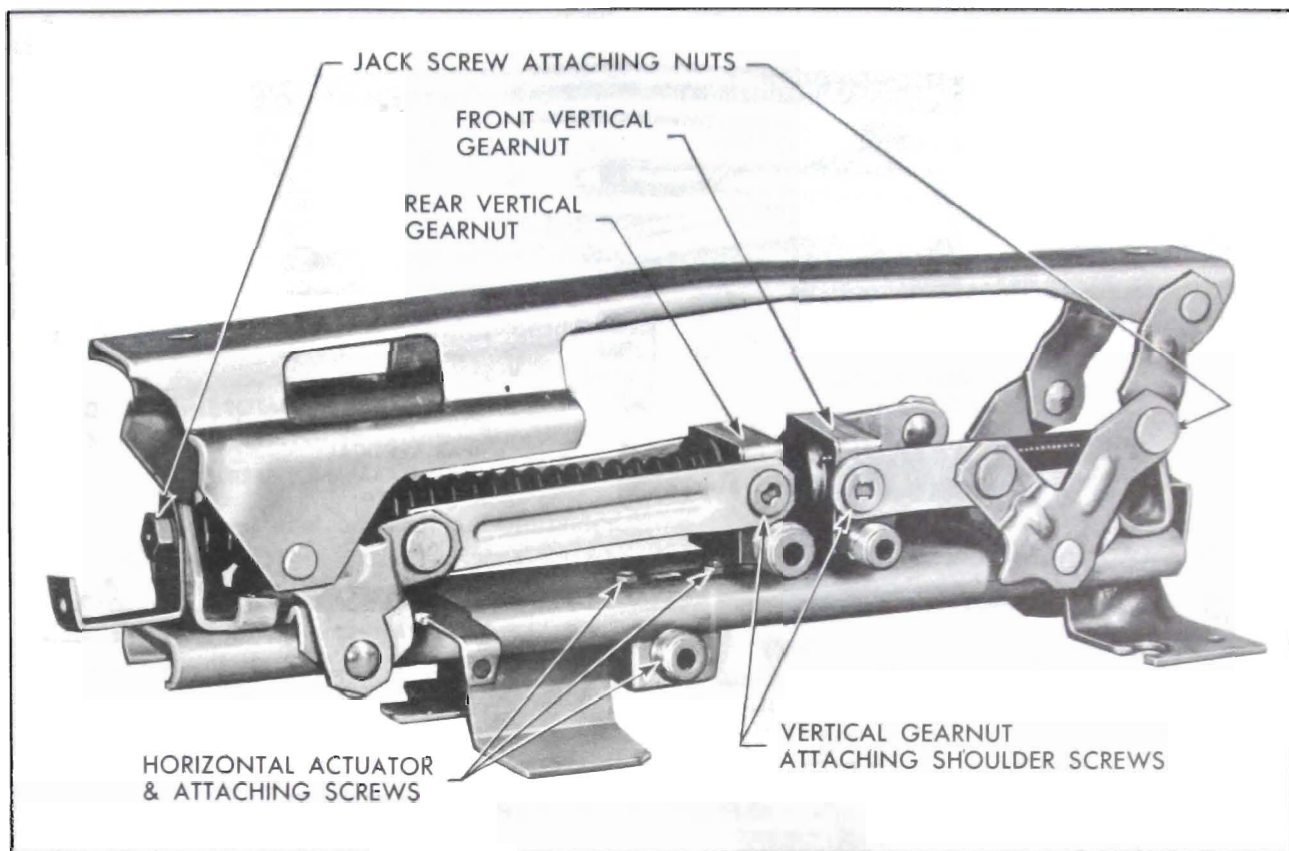

Figure 5-7—Six Way Seat Adjuster
3. Using a clutch-type screwdriver or other suitable tool, remove shoulder screws securing linkages to vertical gear nuts (Figure 5-7).
7. To install, reverse removal procedure, making sure jackscrew is installed with unthreaded shoulder at rear of adjuster and gear nuts installed as shown in Figure 5-7. Rear vertical gear nut, which has the larger diameter cable attachment, should be installed to the rear; front vertical gear nut, which has the smaller diameter cable attachment, should be installed at the front. Both vertical gear nuts should have cable attachment at bottom and facing inside of adjuster (Figure 5-7).
2. Remove screws securing horizontal actuator (Figure 5-7), and remove actuator from seat adjuster.